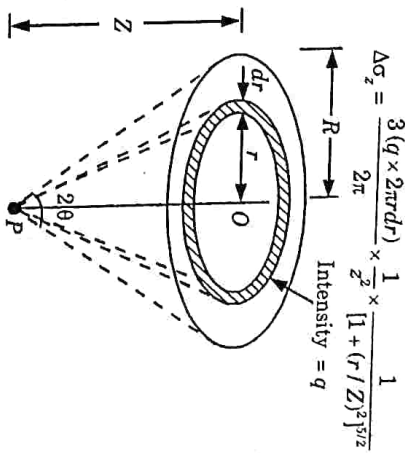

Fig. 4.7.1. Circular load.
- Let us determine the vertical stress at the point P at depth Z below the centre of a uniformly loaded circular area as shown in the Fig. 4.7.1.